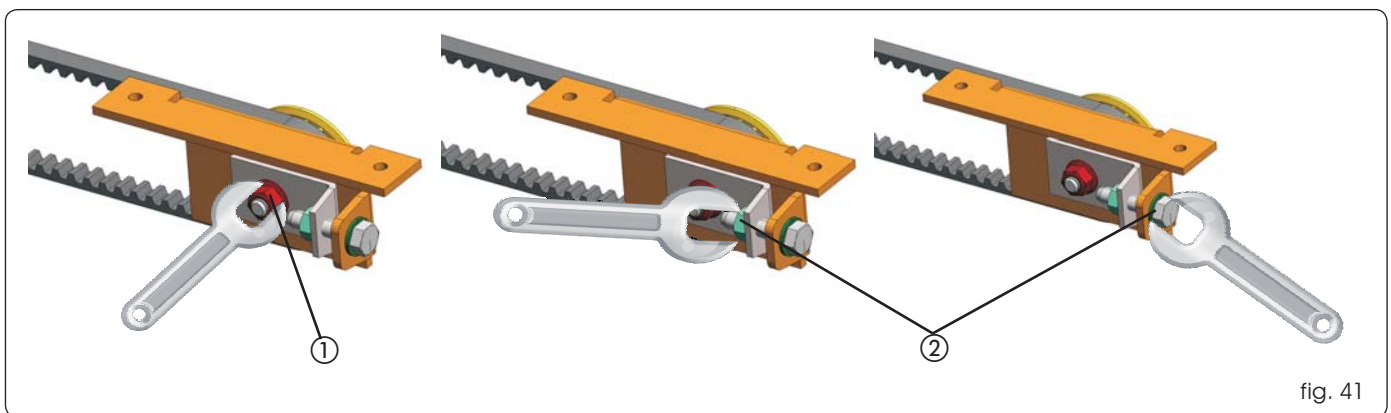

fig. 41
- Loosen the nut (Fig. 41 ref. ①).
- Turn the screw and bolt (Fig.41 ref. ②) to tighten or loosen the belt.
- After controlling tension, tighten the nut (Fig. 41 ref. ①)